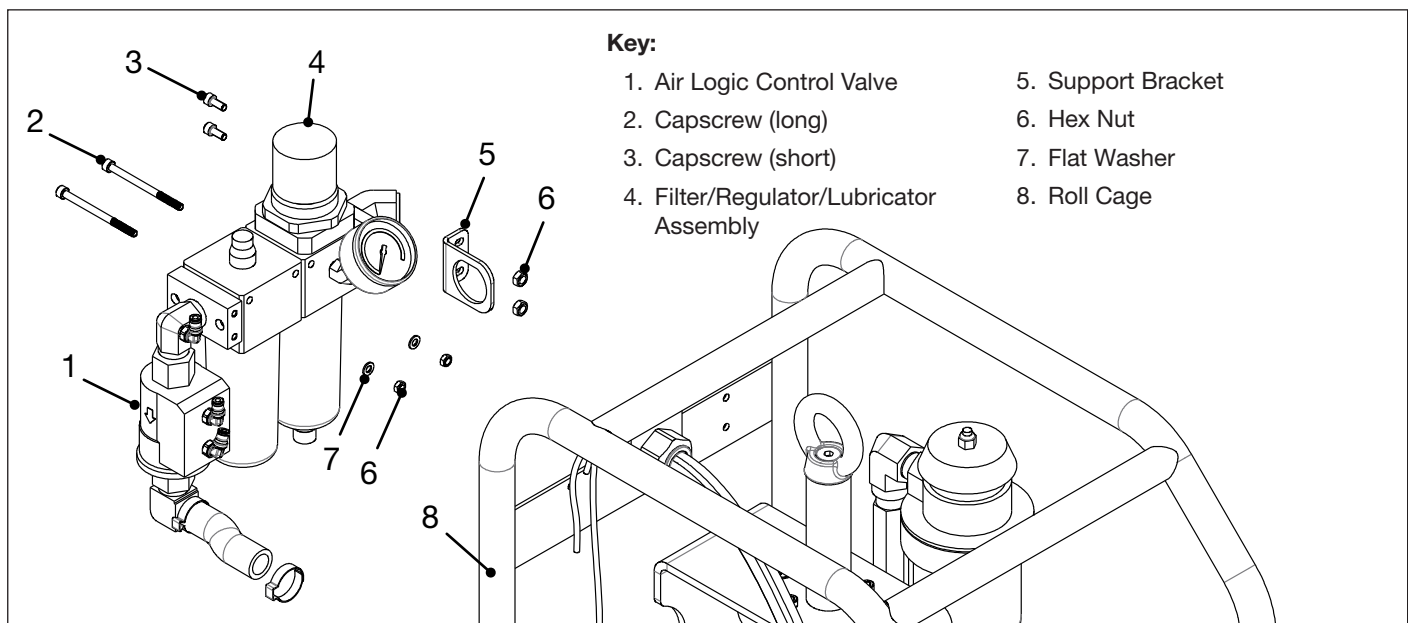

Figure 16: Filter/Regulator/Lubricator, Air Logic Control Valve and Mounting Hardware
4. Remove two capscrews securing the filter/regulator/lubricator assembly to the roll cage. See Figure 16.
5. Remove two capscrews securing the support bracket to the roll cage. See Figure 16.
21. Secure the filter/regulator/lubricator assembly to the roll cage with two screws, flat washers and hex nuts. Apply Loctite 243 to screw threads and torque to 55-65 in-lbs [6.2-7.3 Nm]. See Figure 16.
22. Secure the support bracket to the roll cage. with two screws and hex nuts. Apply Loctite 243 to screw threads and torque to 55-65 in-lbs [6.2-7.3 Nm]. See Figure 16.